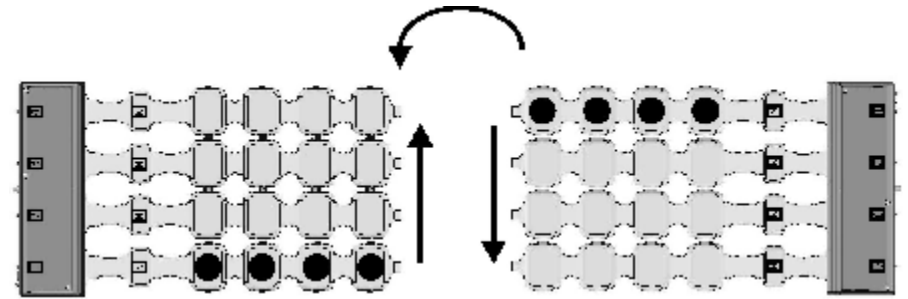

Fig 19
**Note:** pulsed magnetic field in the device emitting stripe lines - is traveling only in one direction. To change the direction of field area it is necessary to change arrangement of the emitter, e.g. as it is shown in the fig.19. At the same you should pay attention both to "north-south" marking, flexible stripe-lines numeration and place emitters in accordance with application manual.